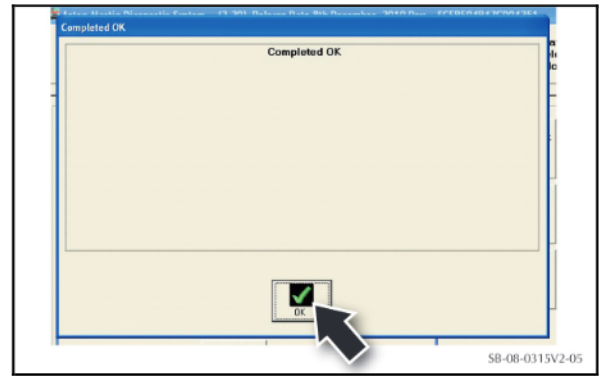

Figure 5
- When the data is deleted, click on "OK" to finish the procedure (refer to Figure 5).